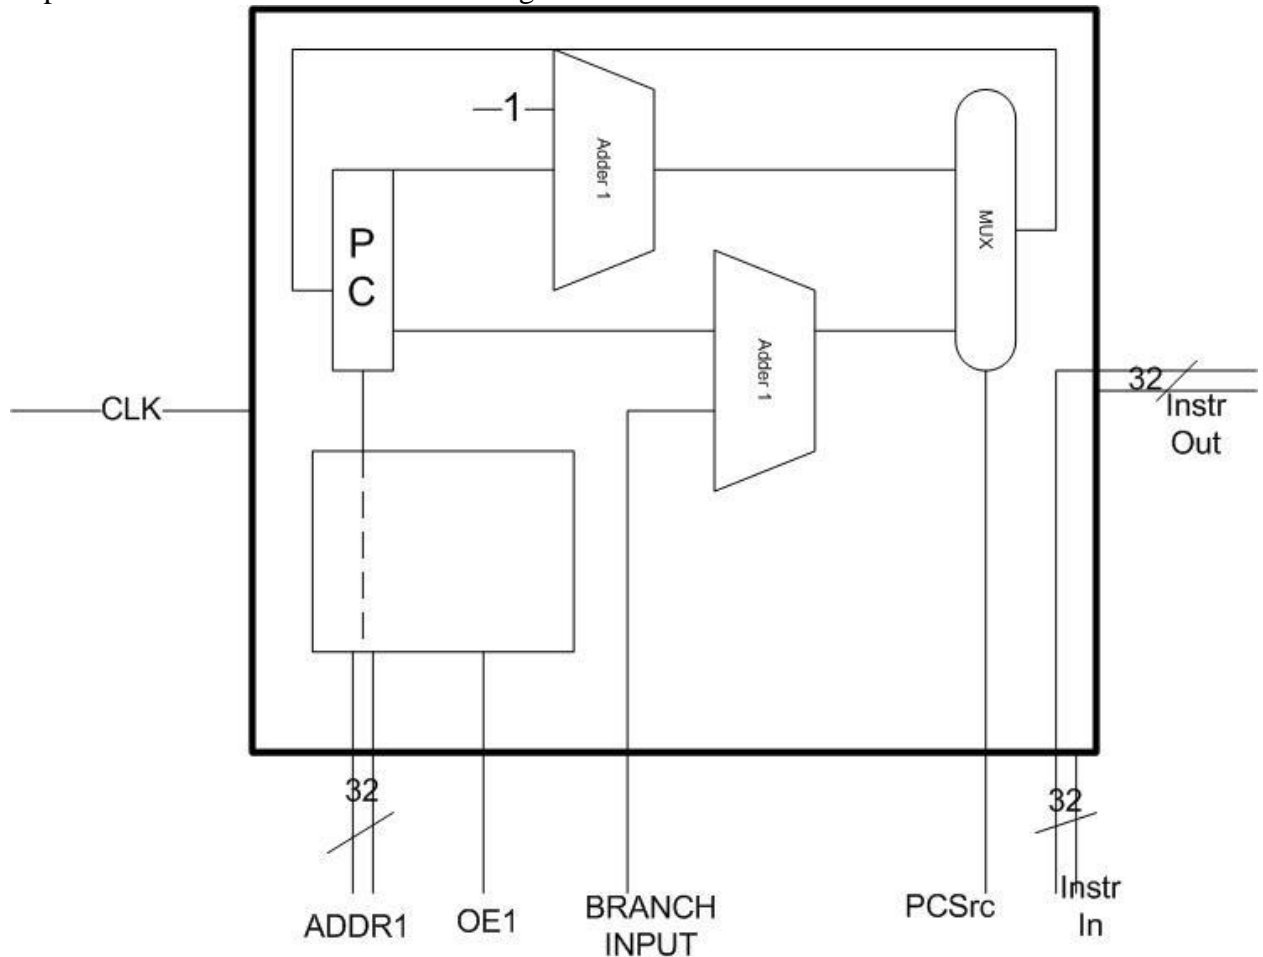

Figure 4: Block Diagram of the ALU
5.2 Instruction Fetch Module (IF)
- Note that all you need to do is instantiate 2 adder (you already have the code for this), one register (PC) and one 2x1 MUX (already done) and wire them up properly to implement this module. Details are in figure 4.